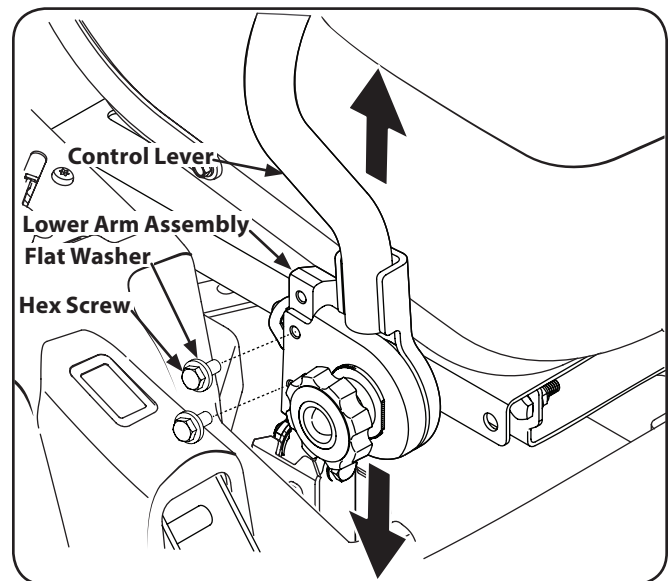

Figure 6-5
1. Loosen the control lever knobs on the side of the drive control levers. See Figure 6-5.
3. Secure in place by tightening the control lever knob. See Figure 6-5.